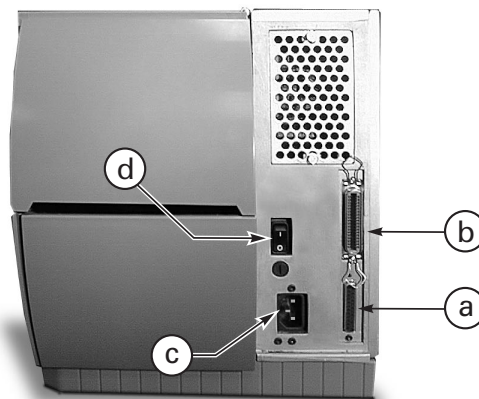

Figure 1. Printer Rear View
Refer to Figure 1. The Z Series™ printer comes standard with both an Electronics Industries Association (EIA) RS-232 serial data interface(a) and a bi-directional parallel interface(b) compliant with the IEEE1284 standard. The serial interface is also configured for both RS-422/RS-485 single drop and RS-485 multi-drop communication modes.
Refer to Figure 1. The AC Power Cord must have a three-prong female connector on one end which plugs into the mating connector(c) at the rear of the printer. If a power cable was not included with your printer, refer to Appendix C at the back of this guide.
Refer to Figure 1. Insure that the AC Power ON/OFF Switch(d) is in the OFF (O) position before connecting the AC Power cord to a nearby electrical outlet.